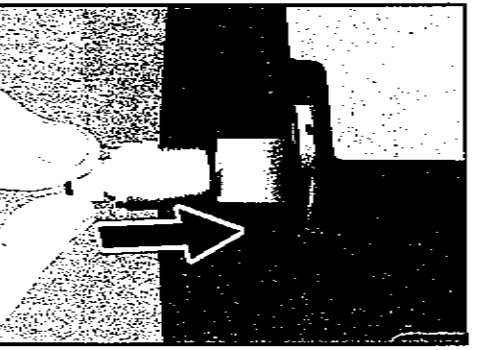

Fig.36
2. Remove the water tank (male) quick connect fitting located inside the hardware kit and attach onto the fitting located on the external water tank, tighten moderately. See Fig. 36